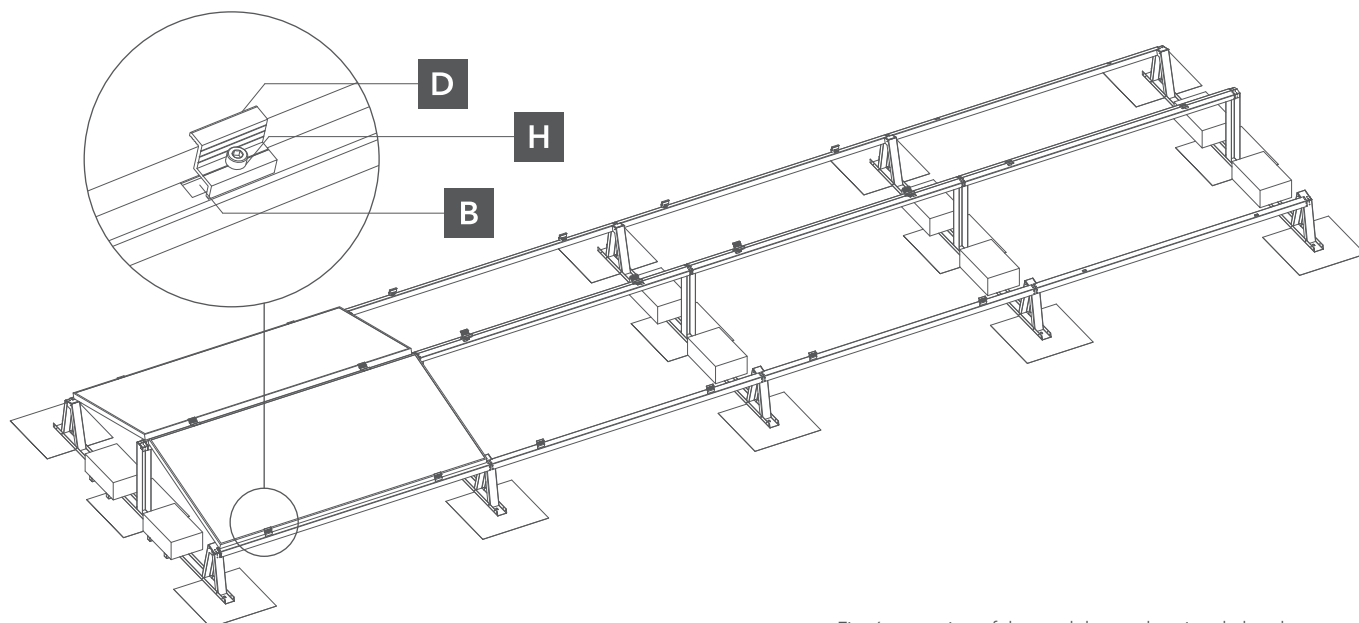

Fig. 6. mounting of the modules on the triangle bracket
- 5** Place the first, outermost photovoltaic module on the triangular holders and mount the end clamps while holding it in place. Clamps are screwed with M8 hexagon socket screws with slot nut. The process should be repeated until all modules in a row are installed (Fig. 6).